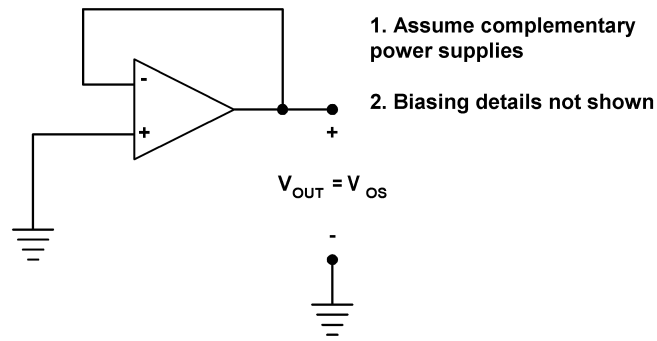

Fig. 1. Circuit for measuring an amplifier's operating point
- C. Fig. 1 shows the correct configuration for measuring the operating point of an amplifier. Confirm that the host-file reflects this configuration.
1. Edit the '.sp' file to measure the small-signal step response using the circuit shown in Fig. 1. Instead of grounding the positive input add a 50-mV pulse voltage source, such as in the following statement